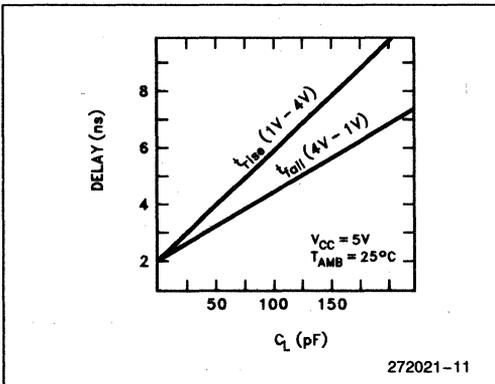

Figure 10. Typical Rise and Fall Variations Versus Load Capacitance
5. Specified for a 50 pF load, see Figure 10 for rise and fall times outside 50 pF.
6. See Figure 10 for rise and fall times.